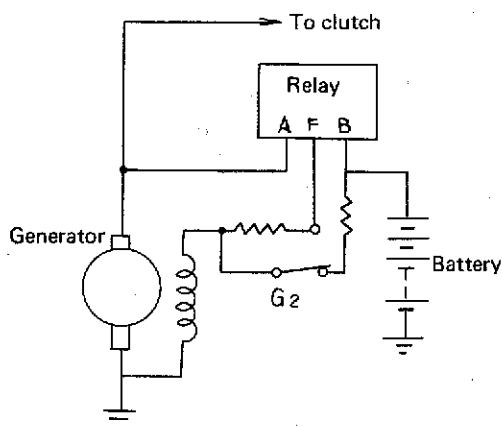

Fig. 20
- 2) Introducing and removing the dynamo correcting resistances (Fig. 20).